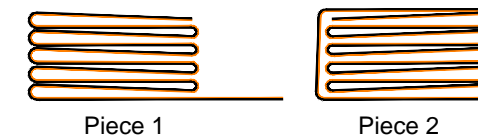

FIGURE 2
1. ONCE FIRST AND SECOND PANEL ARE UNROLLED, FLIP THE TOP FOLD OF PIECE1 TOWARDS THE BUNKER FINISHING END, (FIGURE 2)